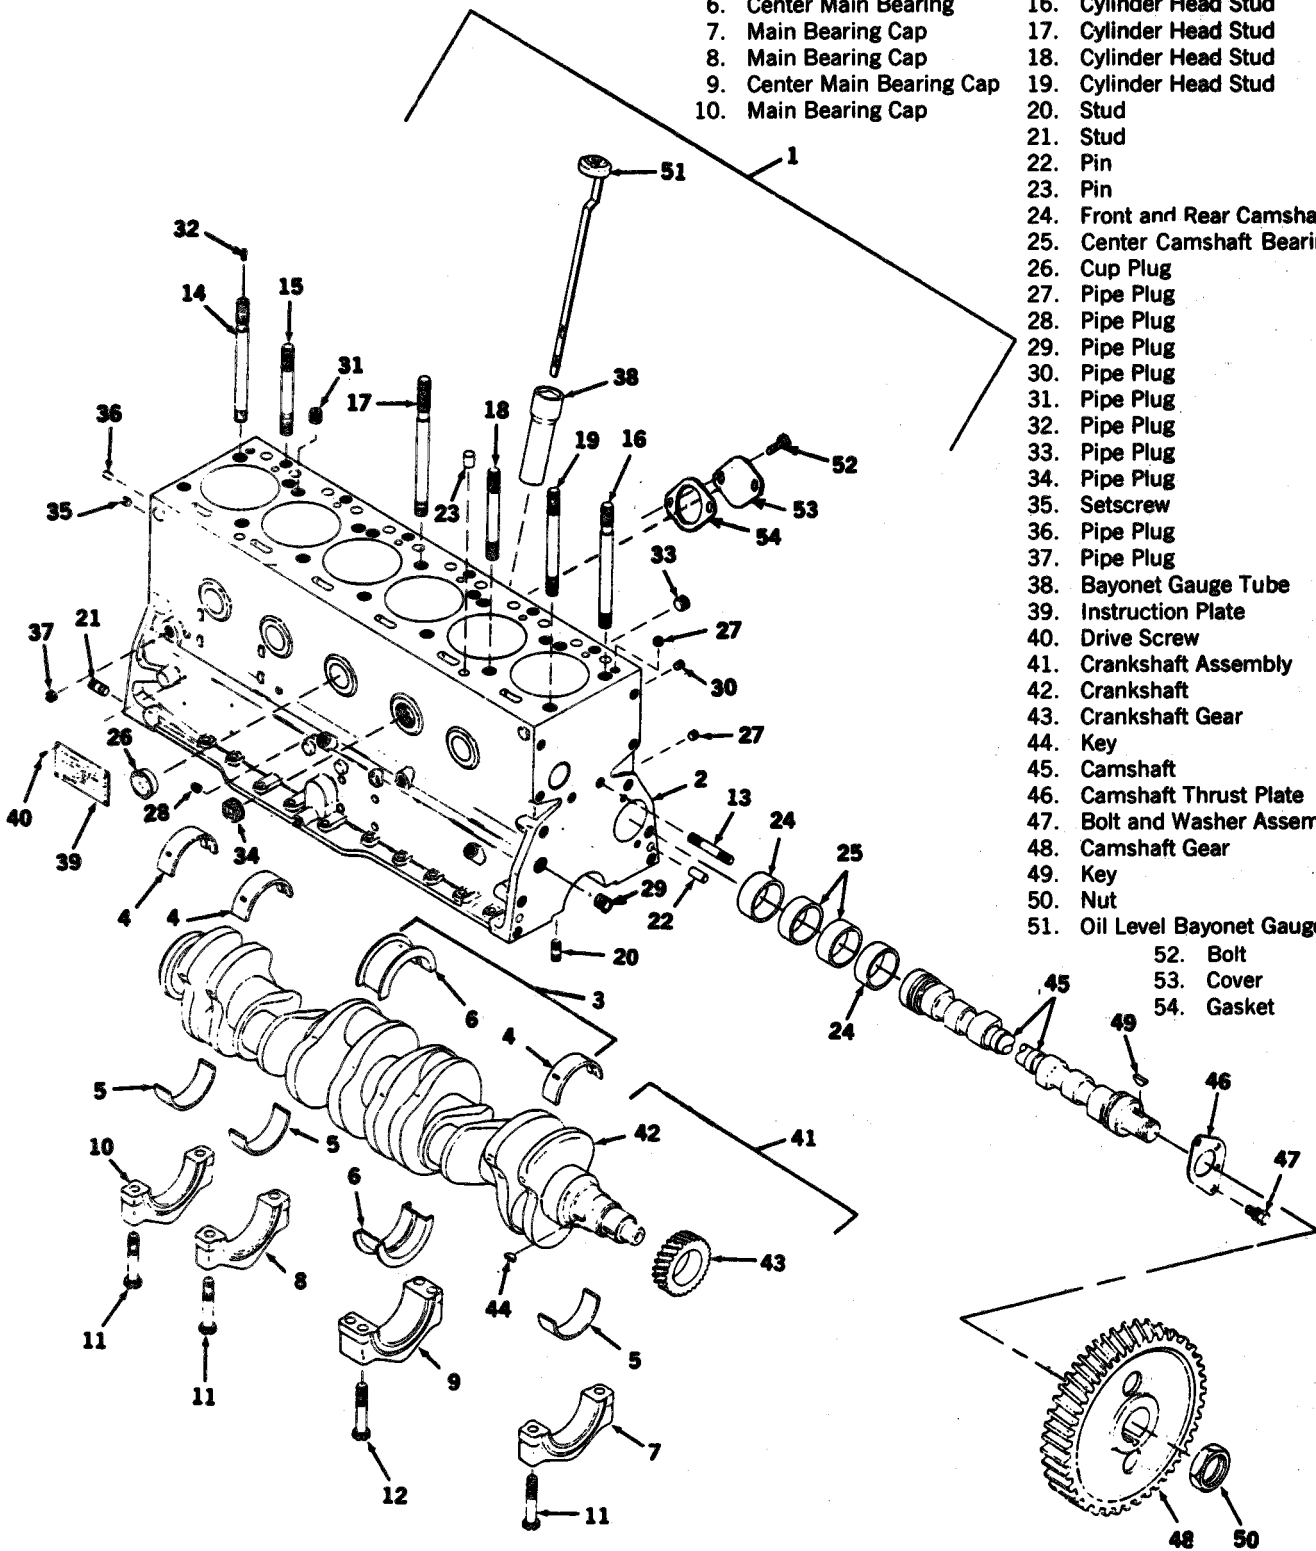
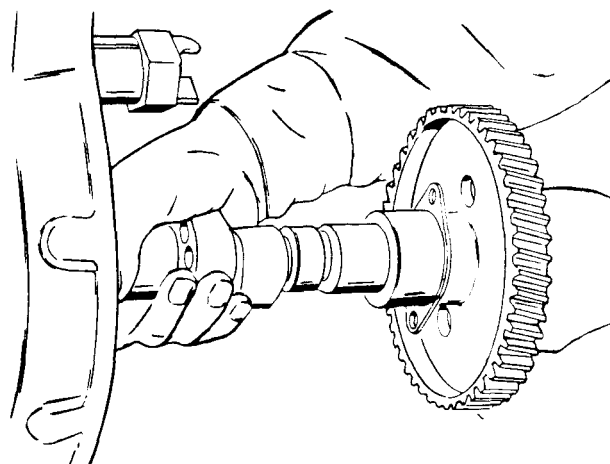

Figure 3-25. Cylinder Block
Figure 3-28. Camshaft and Thrust Plate Removal
7. Install camshaft gear (48, figure 3-25) aligning timing mark with timing mark on crankshaft gear (see figure 3-24). Insert brass bar between camshaft and crankshaft gears. Pull down and secure gear with the camshaft nut (50, figure 3-25). Tighten the nut to 125 to 135 foot-pounds torque.
j. Remove thrust plate mounting bolt and washer assembly (47, figure 3-25) and pull camshaft assembly (45) forward out of cylinder block as shown in figure 3-28.
k. Remove camshaft bearings (24 and 25, figure 3-25). If bearings cannot be withdrawn by hand, drive out camshaft bearings with brass drift. If difficulties are encountered removing rear camshaft bearing, it may be necessary to remove bellhousing.
l. If it is necessary to remove camshaft gear (48, figure 3-25) from camshaft, remove nut (50). Place shaft (45) in an arbor press and, with suitable supports under gear,
b. Inspect camshaft (45, figure 3-25) for scored or worn cams and bring surfaces, damaged oil pump gear, threads or keway, or worn thrust surfaces. Replace camshaft if it has scuffed, scored, or cracked valve cams. Replace camshaft if any bearing journal diameter is worn to less than 2.051 inches.
d. Inspect thrust plate (46) for worn or scored thrust surfaces and distortion.
e. inspect camshaft gear (48) for worn, cracked, or broken teeth, and worn keyway. Replace damaged gear.
b. Install camshaft bearings (24 and 25, figure 3-25). Replacement camshaft bearings are precision cut and no line reaming is required. When installing, make sure oil holes in bearings are aligned with oil holes in drilled passageways in cylinder block. Tap bearings into place with bearing driver.
c. If camshaft gear (48) was removed place thrust plate (46) on camshaft (45) and press gear onto camshaft with woodruff key (49) in place. Secure with nut (50). Make certain all tappets are in raised position. Carefully insert assembled camshaft (45) into cylinder block, aligning timing marks on camshaft gear with timing marks on crankshaft gear. This ensures correct timing of valves.